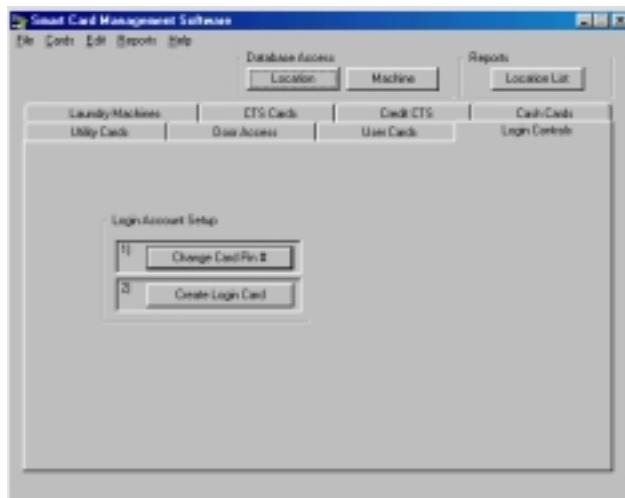

Figure 2.11 Login Controls Manager
2.2.6.1. Login Controls Manager (Figure 2.11)